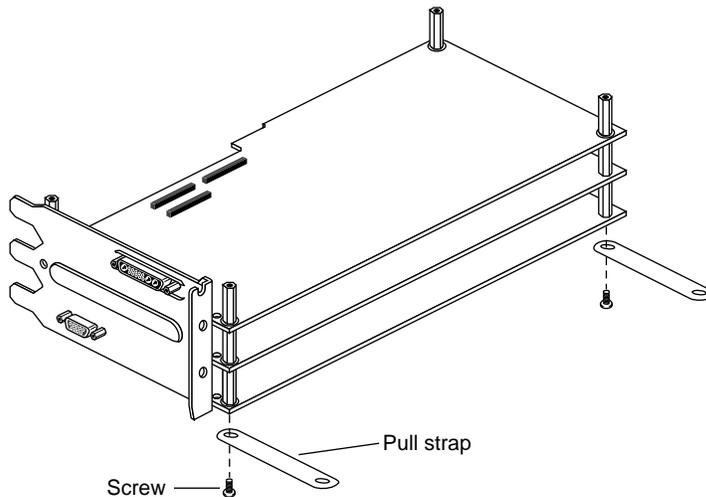

Figure 1-13 Removing the Screws That Attach the Pull Straps
4. Remove the screws that attach the pull straps to the bottom of the graphics board set. See Figure 1-13. You can turn the board set upside down and rest the board on the standoffs to replace the pull straps.
- Replace the screws. See Figure 1-13.